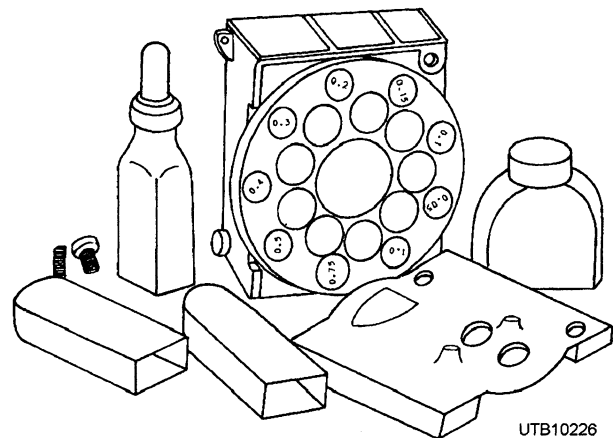

Figure 7-13.—Disk comparator with the front removed show construction.
**EQUIPMENT.**—Either a disk or slide comparator may be used in performing the orthotolidine test. A disk comparator is shown in figure 7-13. This comparator consists of a standard color disk and two sample tubes. Water to be tested is placed in both tubes. Reagent is added to one and the resulting color matched with the disk. The other tube is placed behind the disk to eliminate any color error that might be caused by turbidity in the test sample.